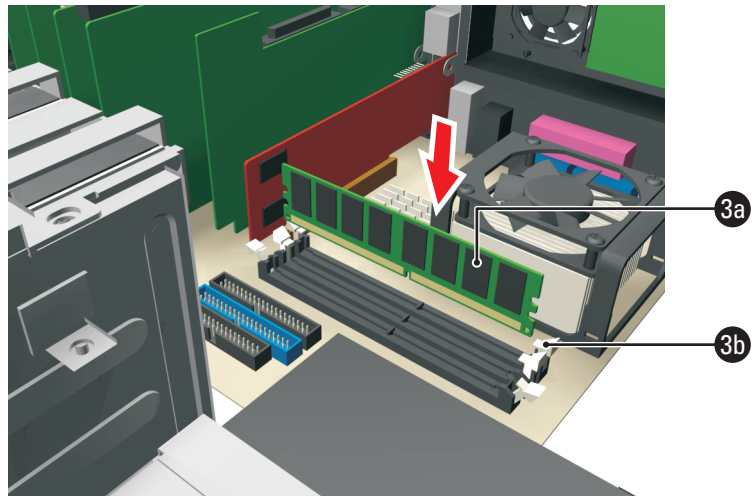

Figure 8. Current 256 MB DIMM Module Moved to Slot DIMM 2
- a. Align the current 256 MB DIMM module (removed from slot DIMM 1) with the socket for slot DIMM 2 so that the notch in the module lines up properly with the break in the DIMM socket. Refer to Figure 8.